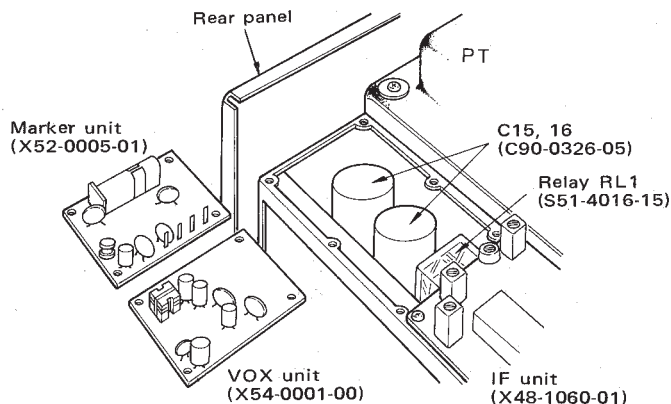
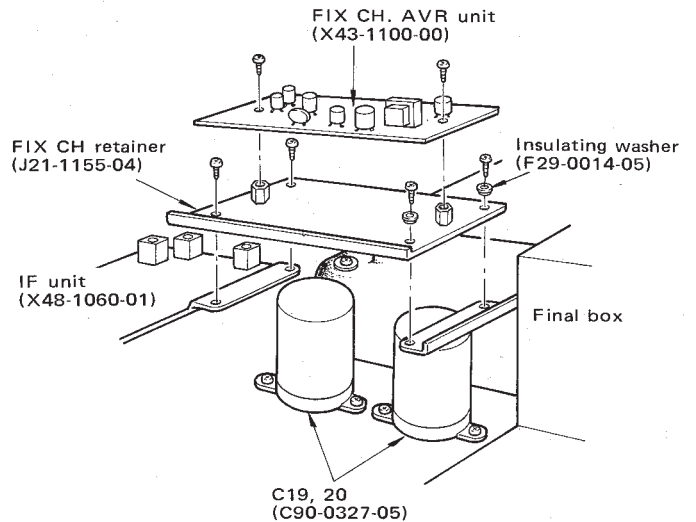

Fig. 10 Replacing RL1, C15 and C16
Fig. 11 Replacing C19, 20
RL1 is located below the VOX board, as shown in Figure 10, next to the power transformer. Remove the top cover of the transceiver and then remove the VOX board.
(Figure 11) C19 and C20 are reached by removing the TS-520S top cover and then the FIXCH-AVR board. C15 and C16 are reached by removing the transceiver's top case and then the MARKER and VOX board (Figure 10).
2. Remove the FIXED CHANNEL · AVR board as shown in Figure 11.